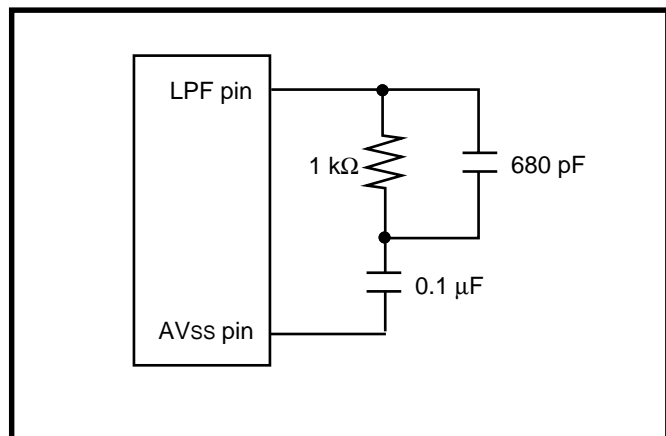

Fig. 3.3.3 Passive components near LPF pin
- All passive components must be located as close as possible to the LPF pin. Figure. 3.3.3 shows the passive components near LPF pin